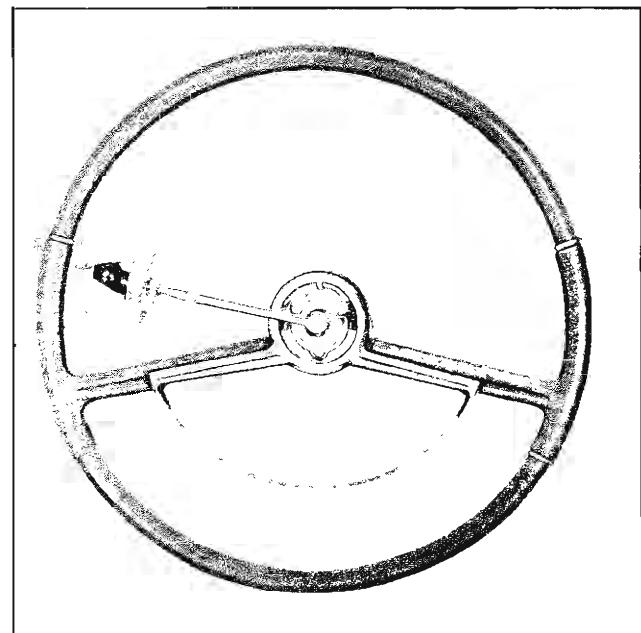

Fig. 9-16 Checking Pull at Wheel
6. With a inch pound torque wrench at steering wheel, measure pull required to keep wheel in motion when off high point, at least 30° off center (Fig. 9-16).